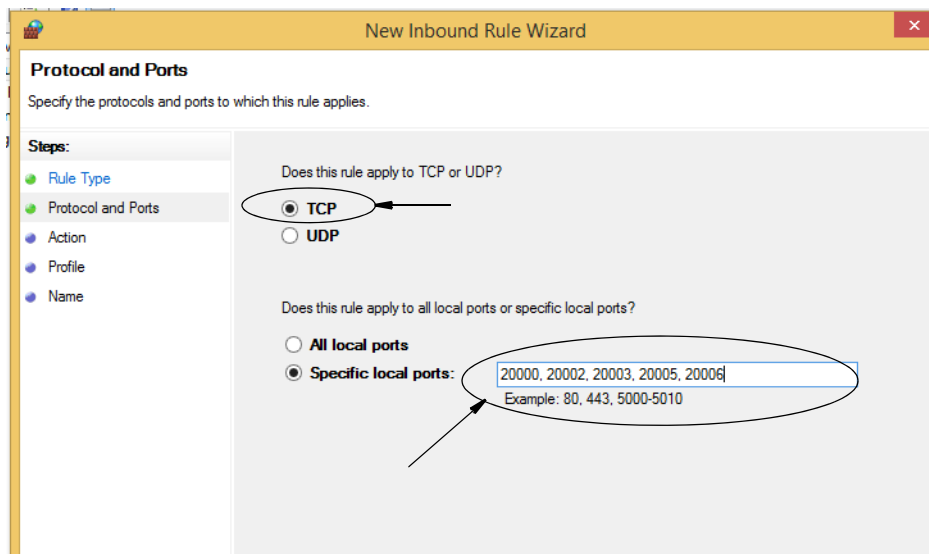

FIG. 45
- Follow the new rule wizard. For Rule Type, select Port and click on the Next button. Then select TCP and specify the following ports: 20000, 20002, 20003, 20005, 20006 (FIG. 45).